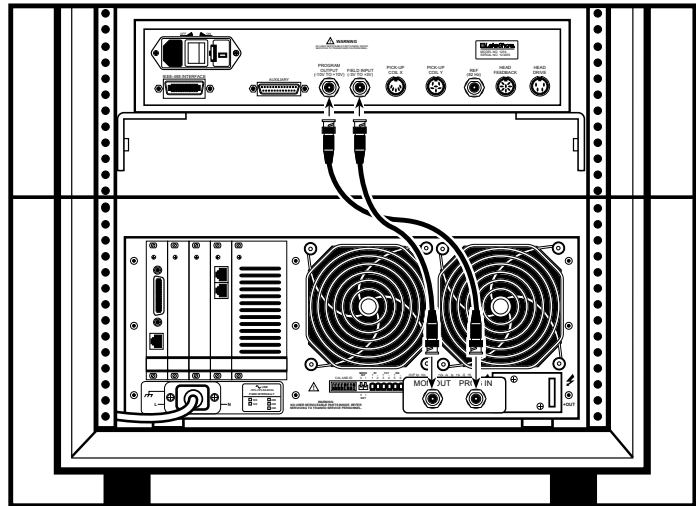

Figure 3-13 Connecting the Model 735 to the MPS
22. Connect a BNC cable from the Model 735 Program Out port to the Model 620 MPS Program Input port. Connect a BNC cable from the Model 735 Field Input port to the Model 620 MPS Monitor Output (Figure 3-13).